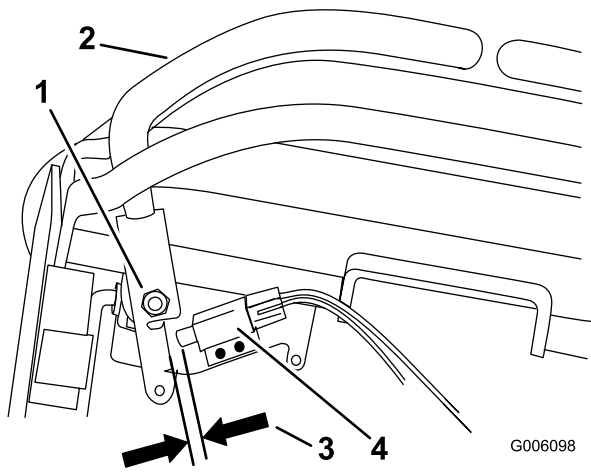

Figure 43
10. Check the gap between the control lever and switch as shown in Figure 43. The gap needs to be an 1/8 inch (3mm).
11. If needed, loosen the screws holding the switch and adjust the switch (Figure 43).